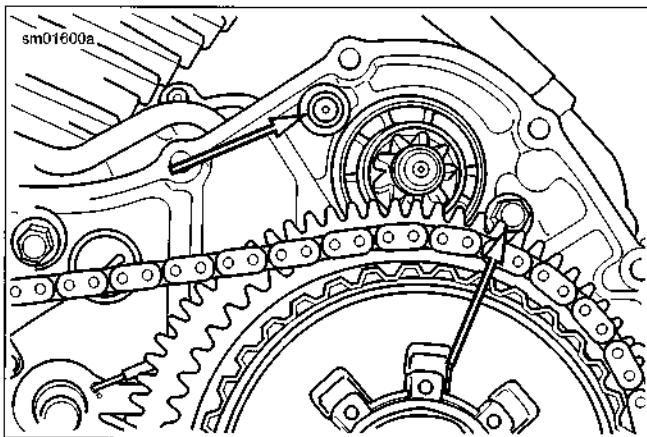

Figure 6-19. Starter Mounting Bolts
7. See Figure 6-19. Remove two starter mounting bolts and washers.
2. See Figure 6-19. Install two starter mounting bolts and washers. Tighten to 13-20 ft-lbs (17.6-27.1 Nm).